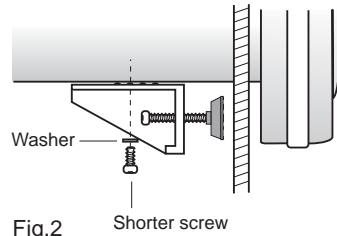

Fig.2
4. Firmly fix the plastic mount block on the either side of the radio using shorter screw. Don't forget to attach the washer. (See Fig. 2 and Fig. 3)